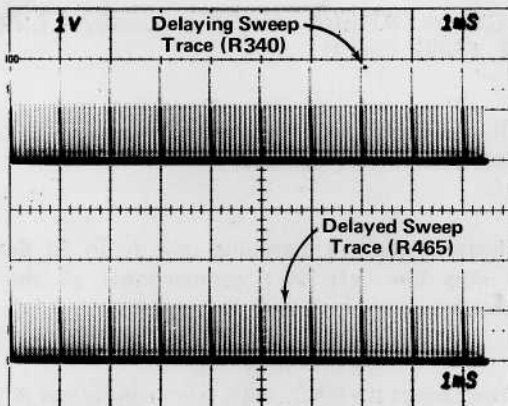

Fig. 4-4. Typical display when adjusting delaying and delayed sweep length (R340, R465).
- c. Rotate the TRACE SEP control fully clockwise and rotate the POSITION control to place the second one-millisecond marker on the first graticule line (see Fig. 4-4).
- d. CHECK—Delayed sweep trace for sweep length of 10.4 divisions (within 0.3 divisions) as shown by one to seven 0.1 millisecond markers to the right of the tenth vertical graticule line. The lower trace is the delayed sweep trace (see Fig. 4-4).
- e. ADJUST—R465, Delayed Sweep Length, for four 0.1 millisecond markers to the right of the tenth graticule line (see Fig. 4-4).
- f. CHECK—Delaying sweep trace for sweep length of 10.4 divisions (within 0.3 divisions) as shown by one to seven 0.1 millisecond markers to the right of the tenth vertical graticule line. The upper trace is the delaying sweep trace (see Fig. 4-4).
- g. ADJUST—R340, Delaying Sweep Length, for four 0.1 millisecond markers to the right of the tenth graticule line (see Fig. 4-4).